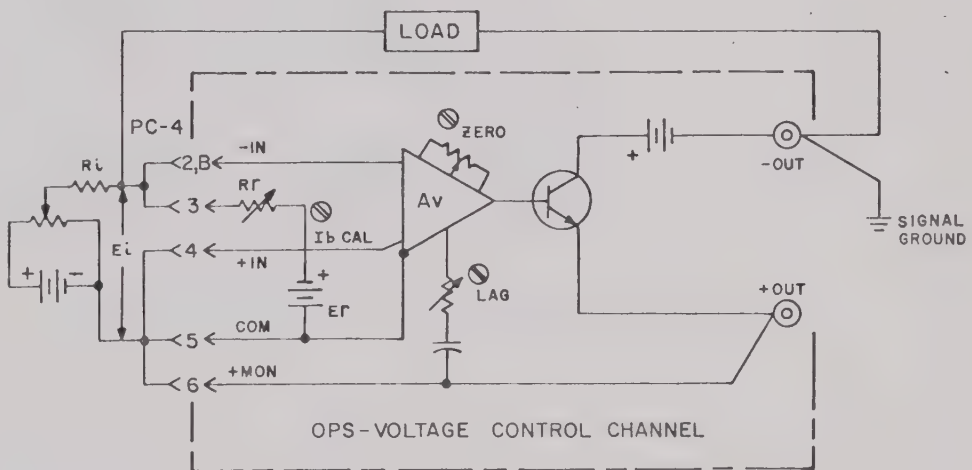
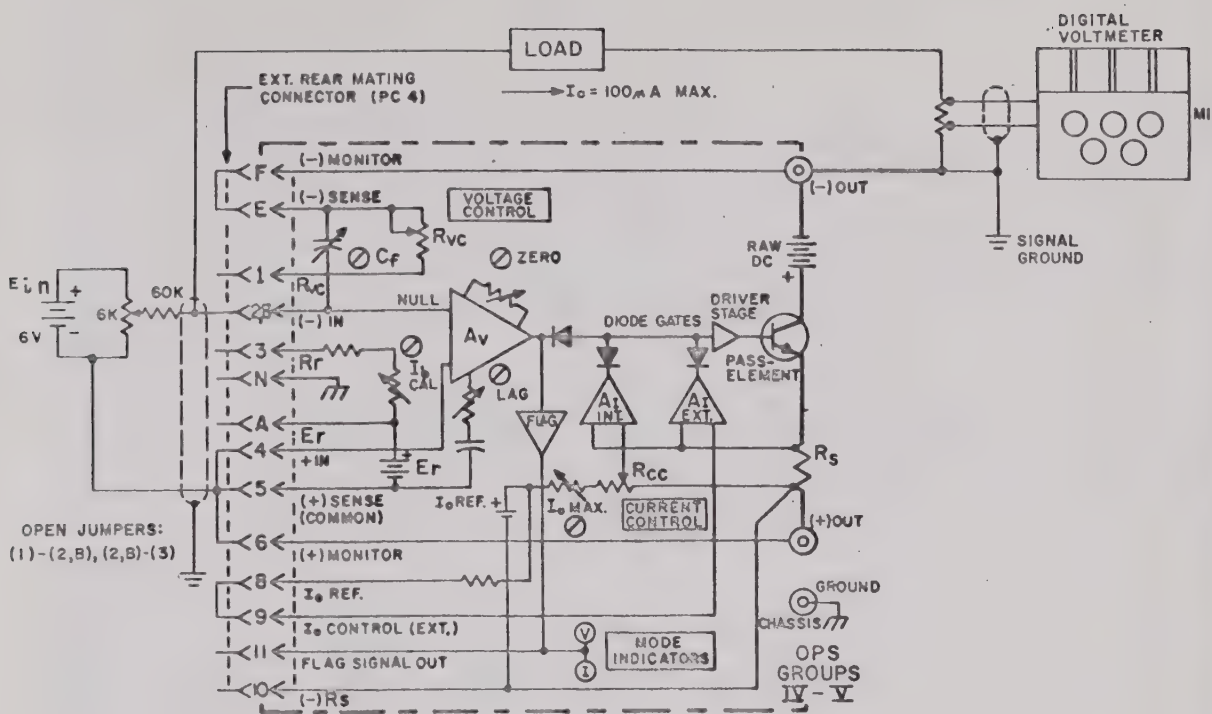

FIG. 3-19 EQUIVALENT DIAGRAM, OPS CURRENT CONTROL WITHOUT SENSING RESISTOR.
FIG. 3-20 CURRENT CONTROL BY VOLTAGE (WITHOUT " R_s ").
which is derived from the equivalent circuit shown in FIG. 3-19, and is valid for the "zeroed" OPS.
373 The circuit shown in FIG. 3-19 is suitable only for output currents which can be supplied by the external control source (the OPS acts as a "controller" only). The circuit is very useful, however, for applications requiring very small output currents, where the negative output side of the OPS (or the load) must be grounded.
374 The external control source is loaded with a potentiometer to draw approximately 1 milliampere, while the control voltage (E_i) is taken between the potentiometer's center tap and "common." The control voltage (E_i) can now be varied between zero and E_i (MAX). A series resistor (R_i) connected as shown (refer to FIG. 3-19) completes the control circuit. The value of R_i depends on E_i (MAX) and is found by using equation (4). E_i must in turn, be able to deliver the necessary compliance voltage across the load. The values given in FIG. 3-20 are for $I_O = 100 \mu A$ ($E_O = 6V$). Stabilized output current in the range from 0 to 100 microamperes can now be adjusted as the current control potentiometer is varied between its limits. The actual interconnections are illustrated in FIG. 3-20.